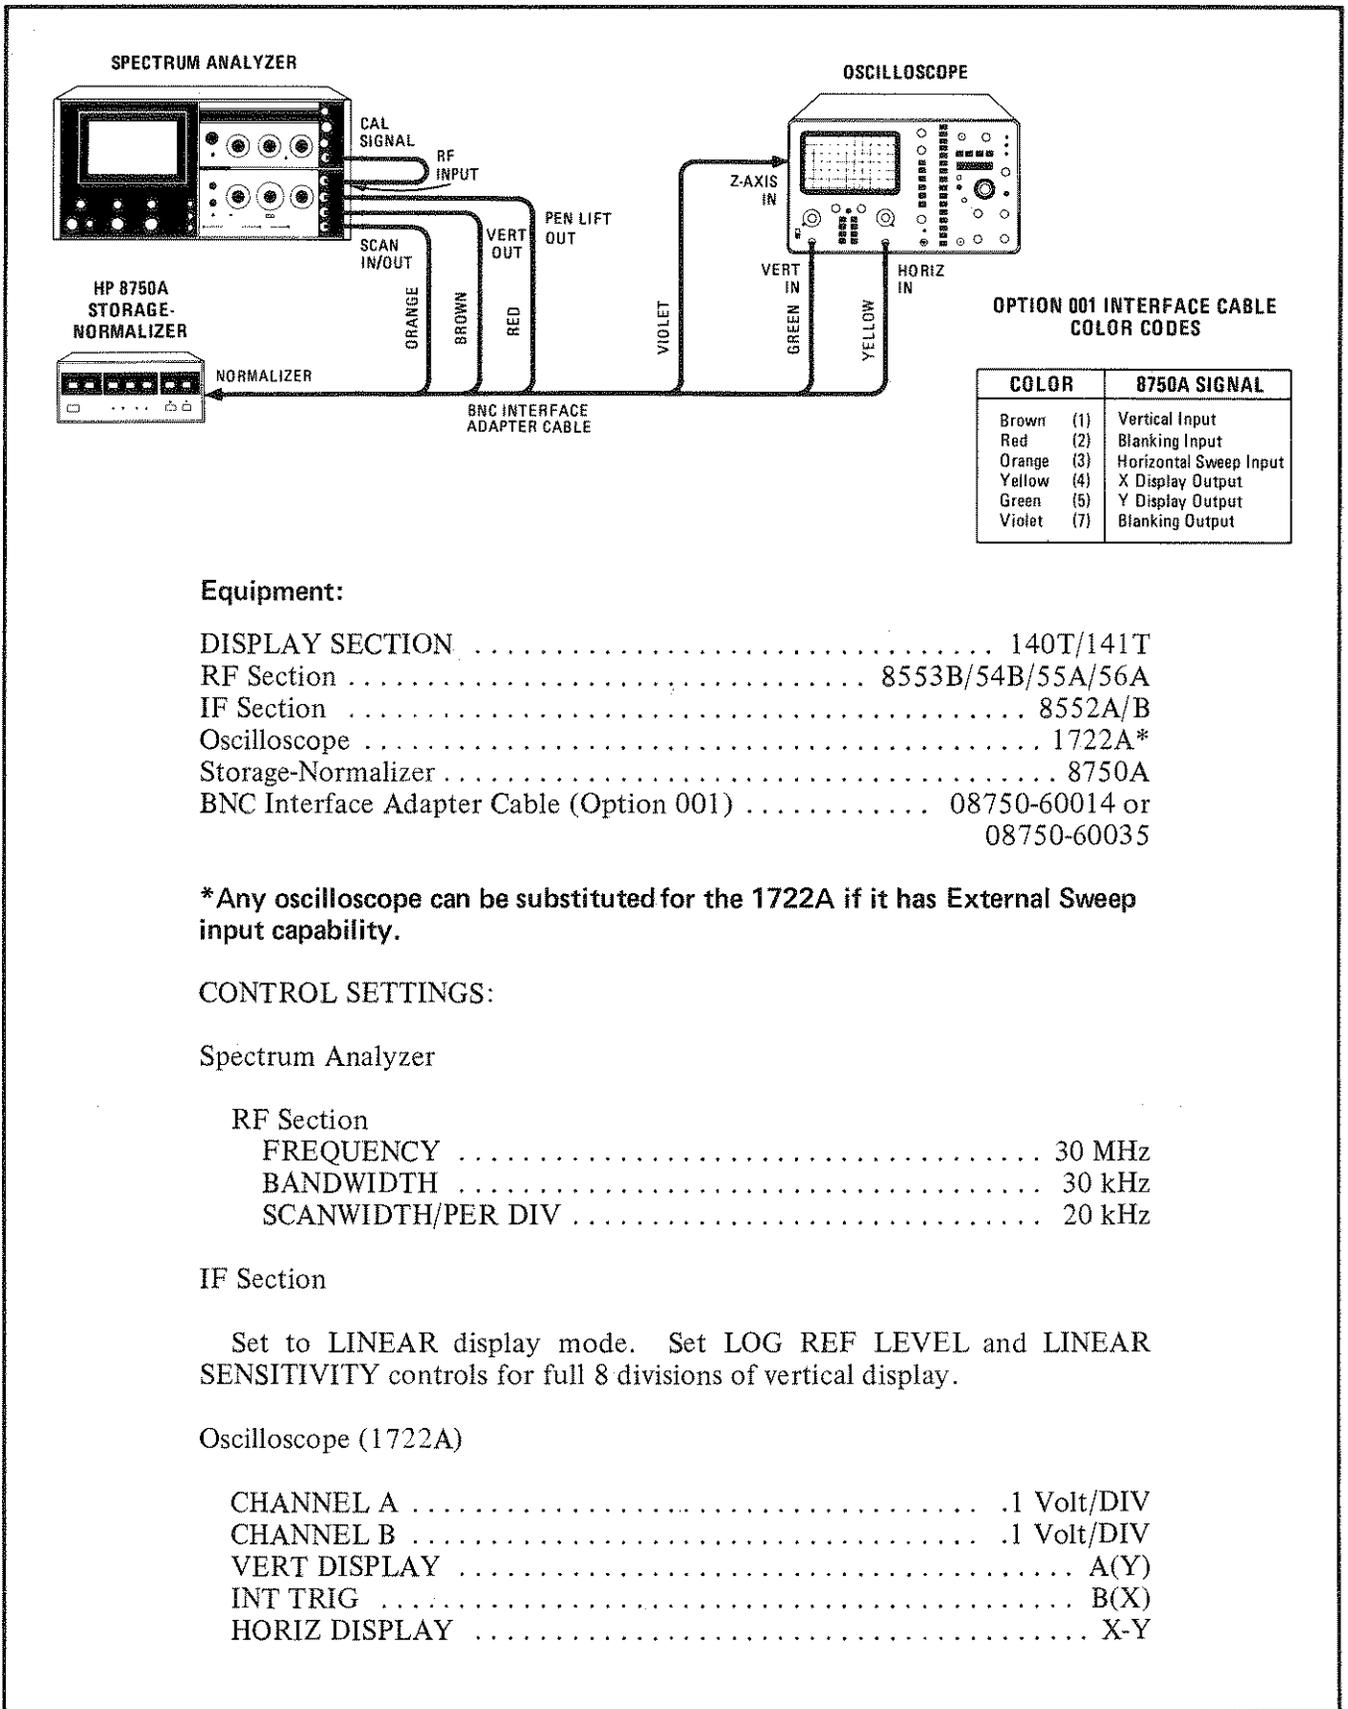

Figure 3-32. 140 Series Spectrum Analyzer and 8750A Typical Test Setup
- c. Connect the equipment as shown in the test setup in Figure 3-32. Set Spectrum Analyzer and oscilloscope controls as listed in the test setup.